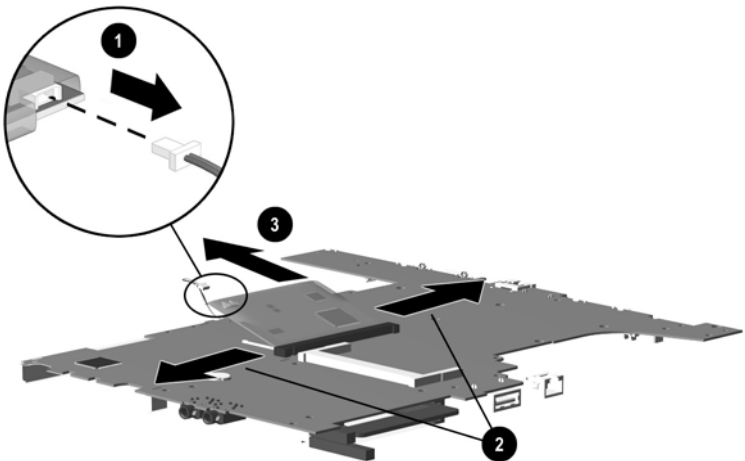

Figure 5-24. Removing the Mini PCI Board
3. Disconnect the modem connector/cable from the mini PCI board ❶ (Figure 5-24).
5. Pull away the plastic retention clips on each side of the mini PCI board ❷. The board tilts upward.
6. Lift the edge of the board and slide it out of the mini PCI slot at a 45-degree angle ❸.